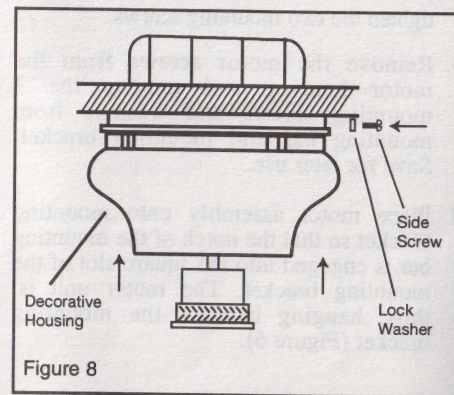

Figure 8
2. Place decorative housing over motor assembly and against ceiling, matching the 4 holes on the perimeter of the mounting bracket. Secure housing onto mounting bracket with 4 screws and washers (Figure 8).